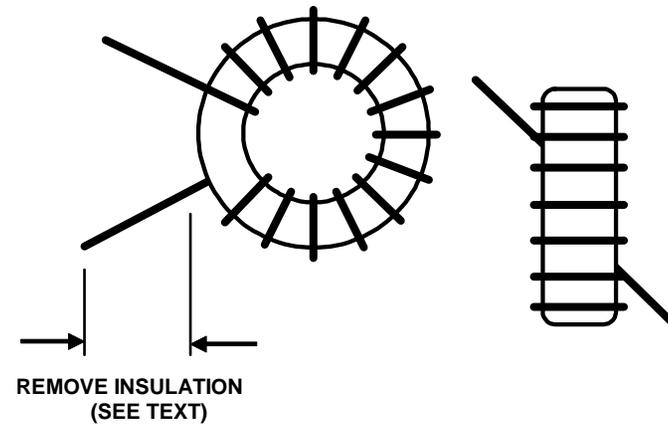

Figure 16. Toroidal Inductor L2.
- Spread the turns around the core so the finished result looks like Figure 16.